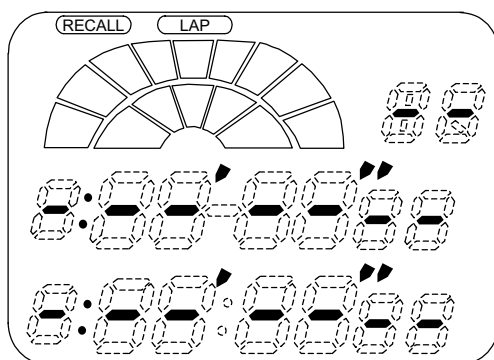

Figure 1
- *: When an ALL CLEAR is executed and reset MEMORY RECALL mode is executed (when switching from split to lap in CHRONO mode), the display is as in Figure 1.